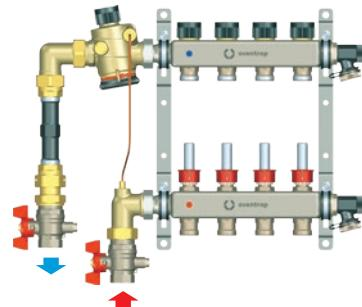
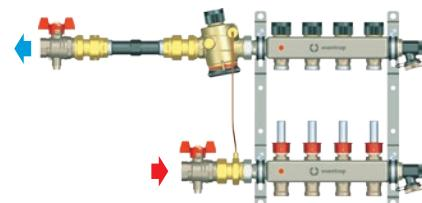

Fig. 5: Installation example for the angle version of the heat meter connection set
Fig. 6: Installation example for the straight version of the heat meter connection set
For installation examples, see Fig. 5 on page 24 or Fig. 6 on page 24.
1. Install the components (for left hand side connection) as shown in Fig. 5 on page 24 or Fig. 6 on page 24. Use the enclosed flat seals.